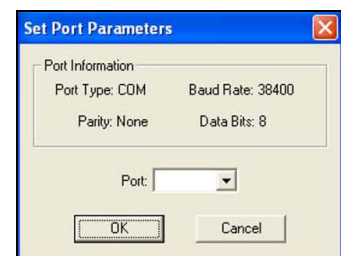

Figure 71: Select Com Port
3. A dialog box appears (*Figure 71*) with all of the current Com Ports. Select a port and click **OK**.